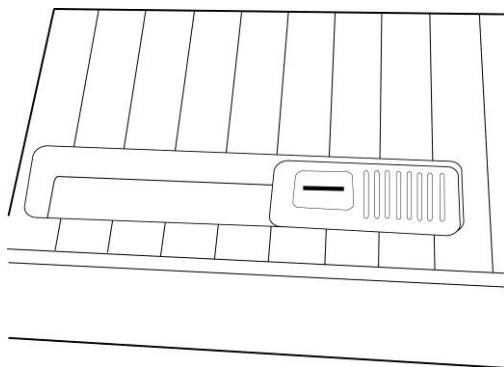

Figure 24
2. Lift the print head module to expose the media sensor cover. (Figure 24)